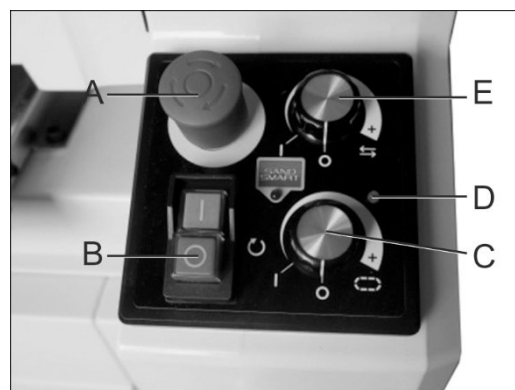

Figure 9-1: control panel
2. Disengage emergency stop by clockwise turning the red button or pulling it up (A, Figure 9-1).
Note: Error Indicator (D, Figure 9-1) may flash continuously to remind that the conveyor speed dial is NOT set at OFF position before starting the operation.
The control system is designed to prevent the conveyor belt from being activating accidentally. If conveyor belt motor doesn't work, turn the dial (C, Figure 9-1) to OFF and re-dial.
The sander can be used with sanding drum in fixed position or in oscillation mode. The top dial (Figure 9-1, E) activates oscillation mode.